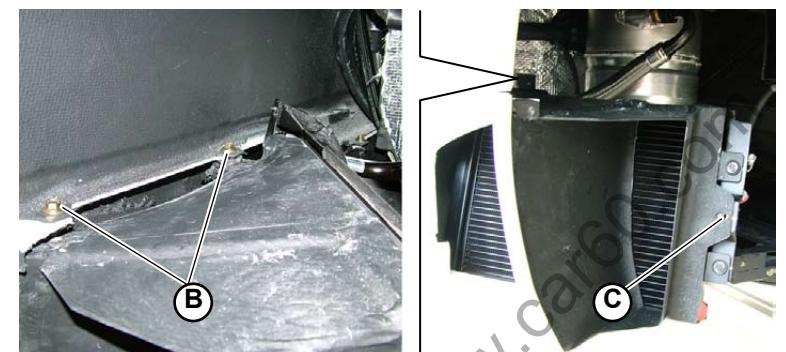

Fig.2
- 2. Unscrew the 2 screws (B-Fig.2) securing the conveyor to the side member, using the free space created by the rear element of the front wheel arch.
- 3. Unscrew the screw (C-Fig.2) securing the conveyor to the oil radiator, using the free space created by the front element of the rear wheel arch.